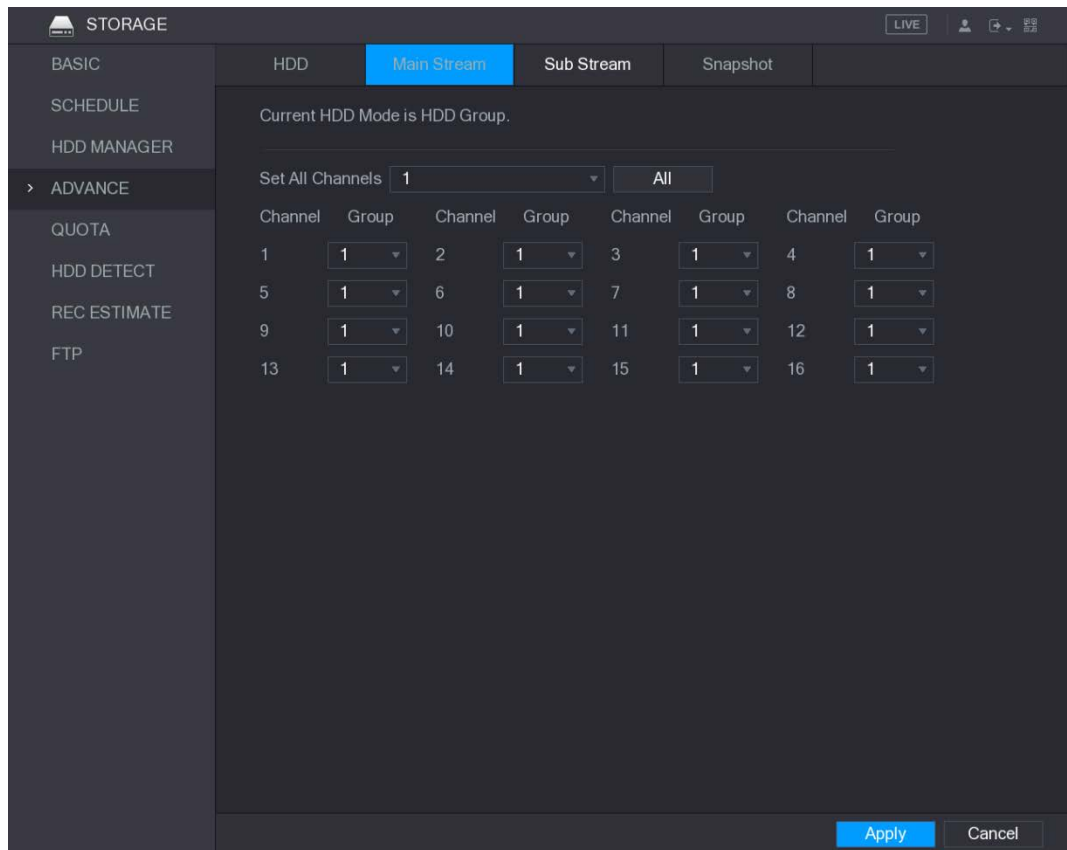
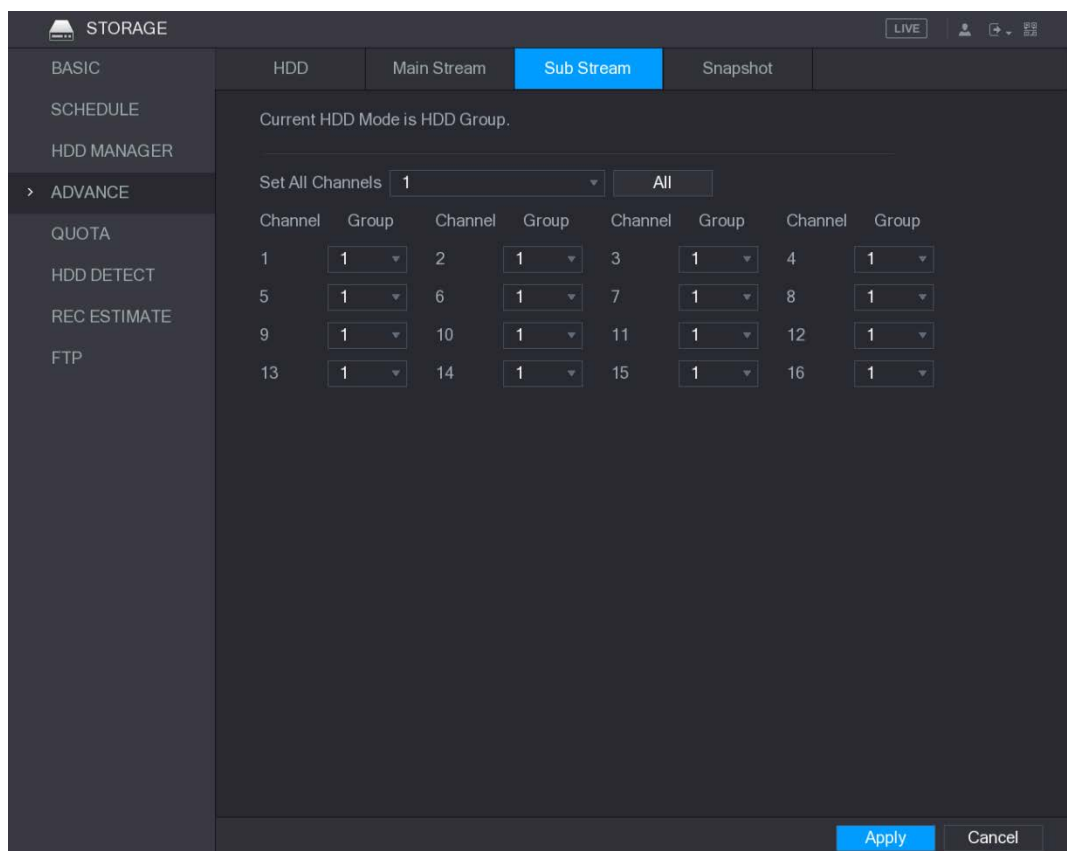
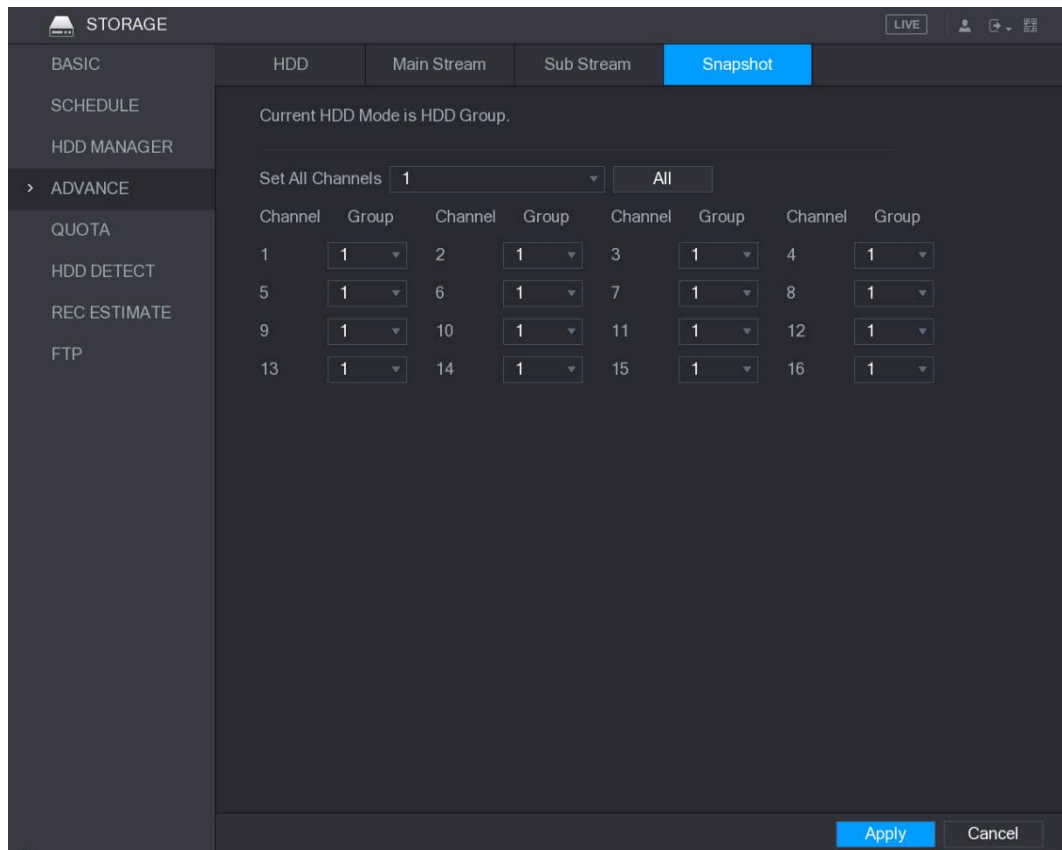

Figure 5-254
Figure 5-255
Figure 5-256
Step 3 After configuring HDD group, under the **Main Stream** tab, **Sub Stream** tab and **Snapshot** tab, configure settings to save the main stream, sub stream and snapshot to different HDD group as selected by you. See Figure 5-254, Figure 5-255, and Figure 5-256.